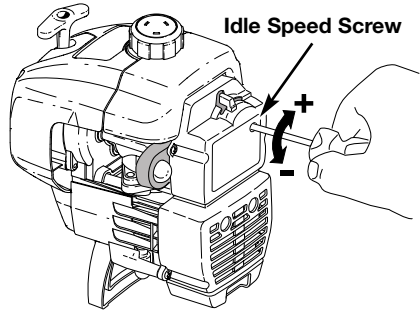

Fig. 26
The idle speed of the engine is adjustable through the Air filter/Muffler cover (Fig. 26).
2. Release the throttle trigger and let the engine idle. If the engine stops, insert a small phillips or flat blade screwdriver into the hole in the air filter/muffler cover (Fig. 26). Turn the idle speed screw in, clockwise, 1/8 of a turn at a time (as needed) until the engine idles smoothly.